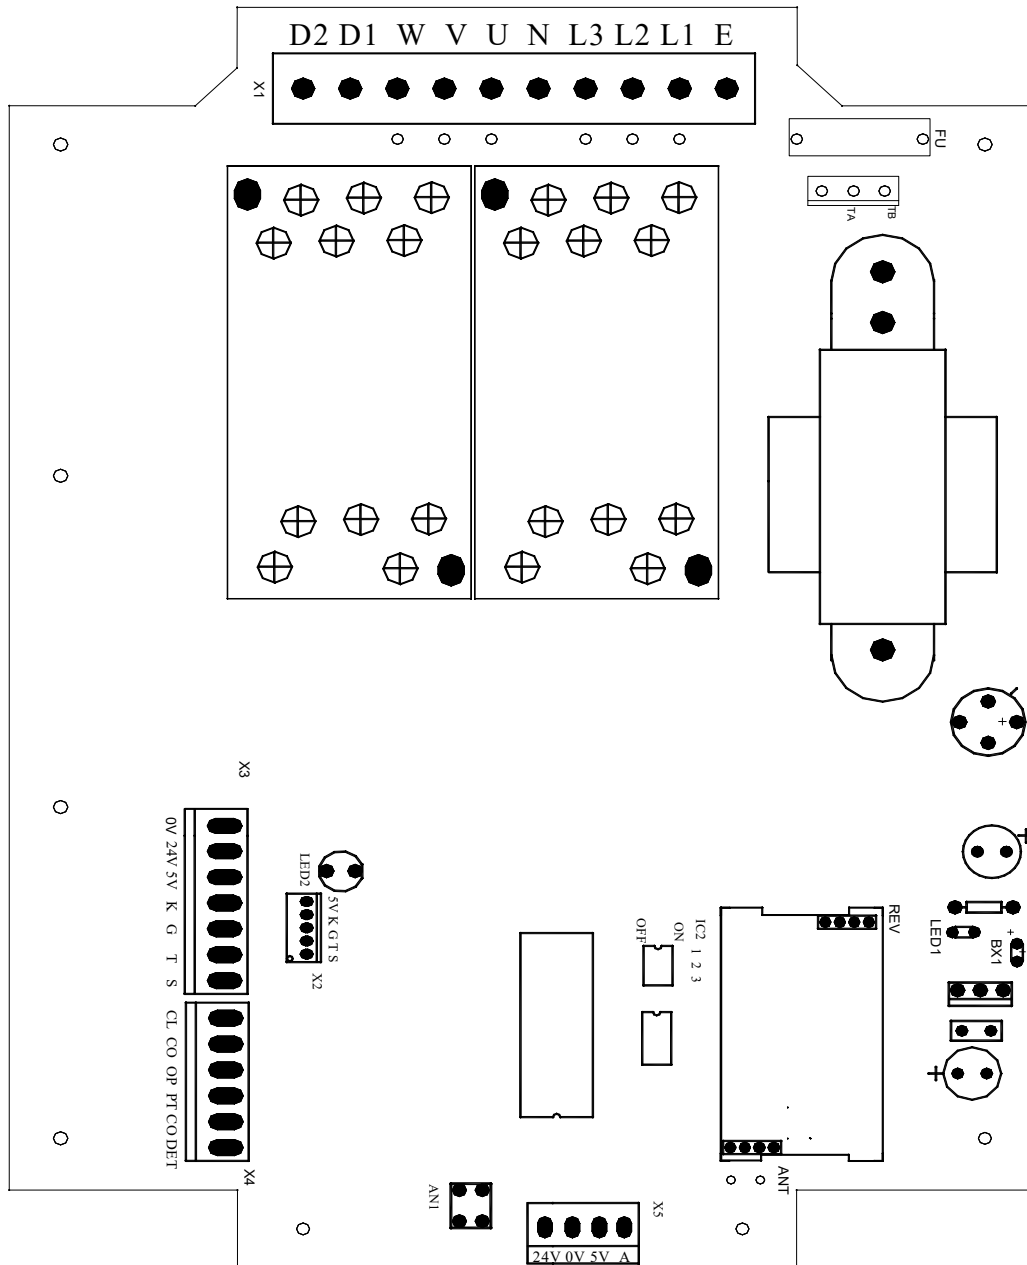

Fig.14 Three-phase control board diagram
**Three phase control board see Fig.14**